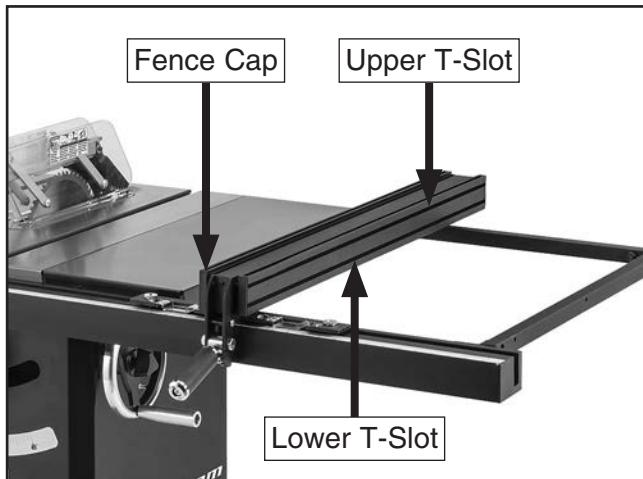

Figure 73. Auxiliary fence mounts on upper or lower T-slots of fence face.
- Remove fence cap from fence face on which you will mount auxiliary fence (see **Figure 73**).